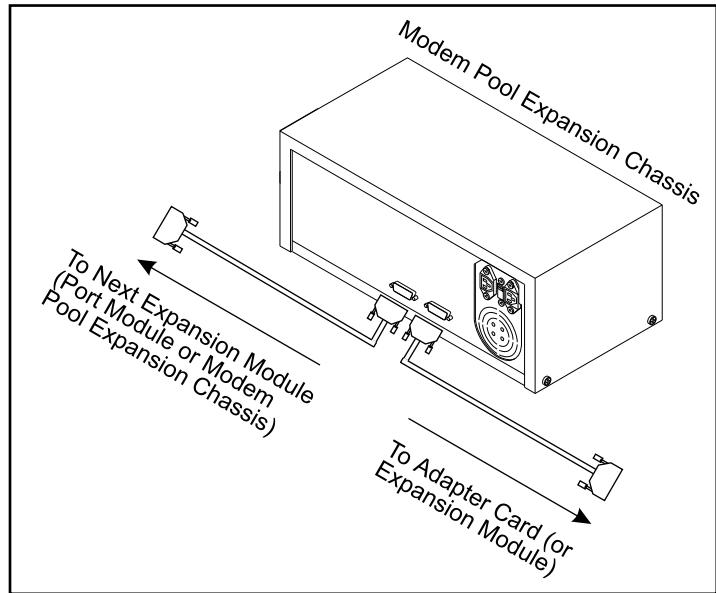

Figure 6-2. *Equinox Modem Pool Expansion Chassis Cable connections*
- When facing the rear of the *SST Modem Pool Expansion Chassis*, connect the other end of the *Expansion Bus Cable* to the right side connector, as shown in Figure 6-2.